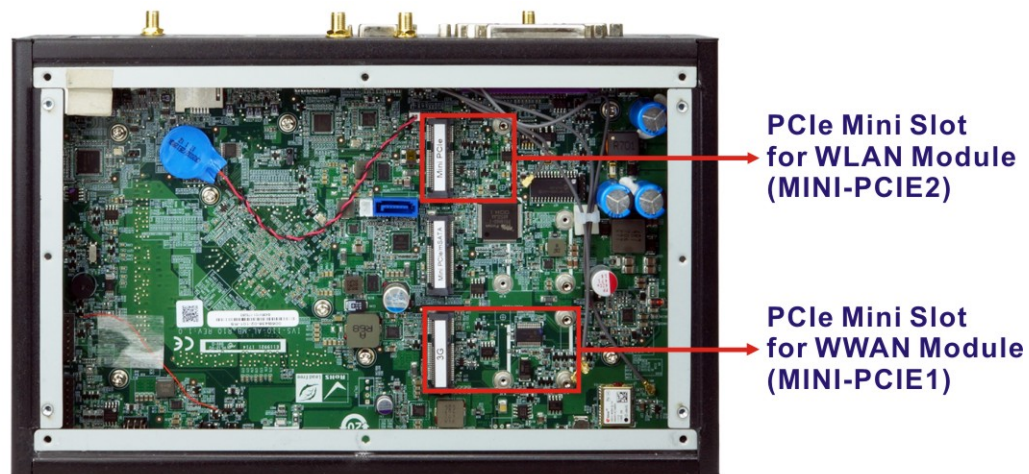

Figure 3-5: WLAN and WWAN Card Slot Locations
Step 2: Locate the half-size PCIe Mini slot for WLAN modules and the full-size PCIe Mini slot for WWAN modules (**Figure 3-5**).